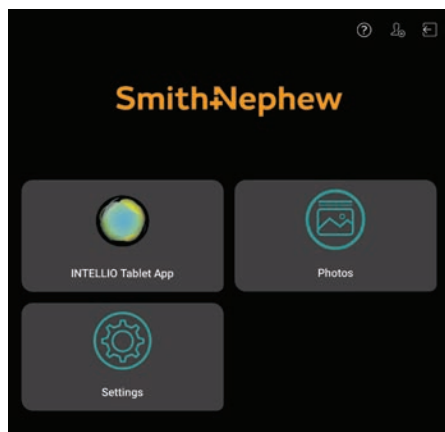

Figure 7. INTELLIO Tablet Home
8. The INTELLIO Tablet HOME displays, (Figure 7).
1. From the Home software, (Figure 7), tap on the **Create User** icon  located in the top right corner.